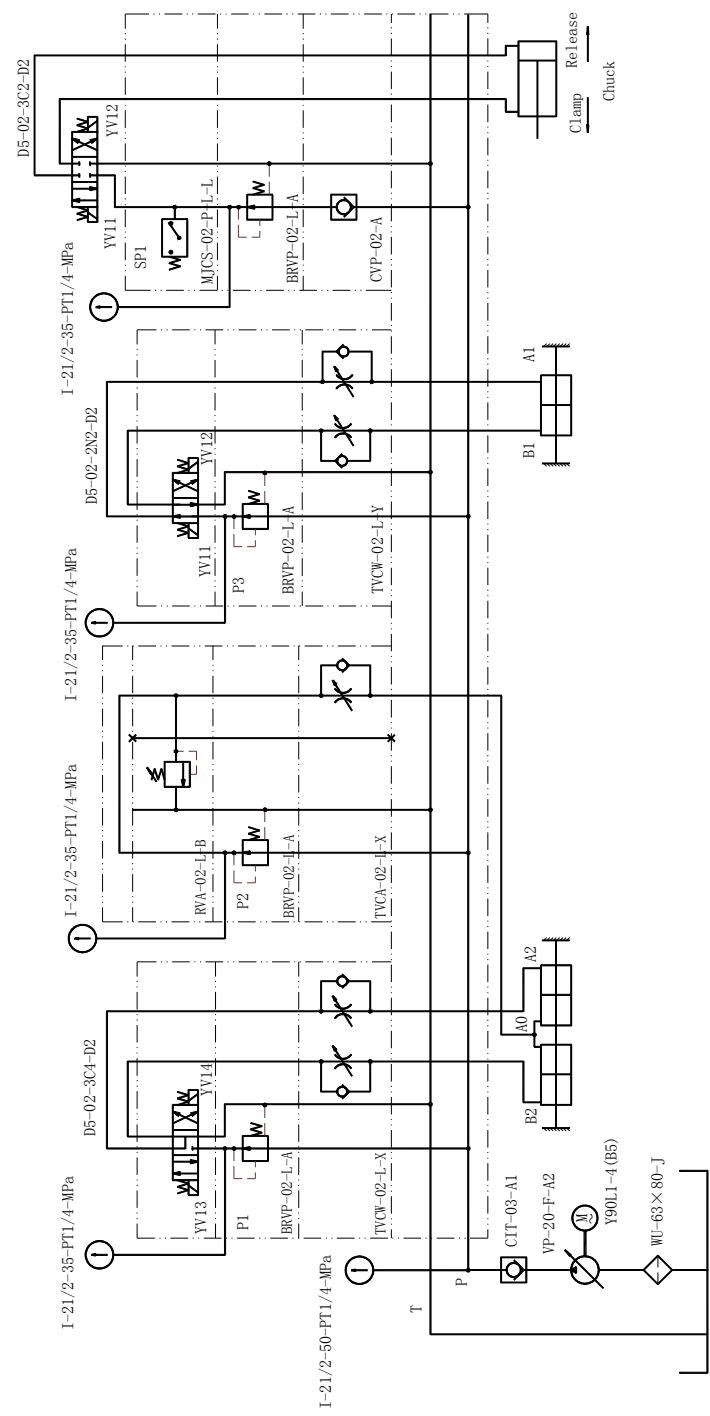

Fig. 6-1 Principle diagram of hydraulic spindle speed-change and hydraulic chuck
- Hydraulic return (Refer to Fig. 6-1 the Principle Diagram of Hydraulic System)